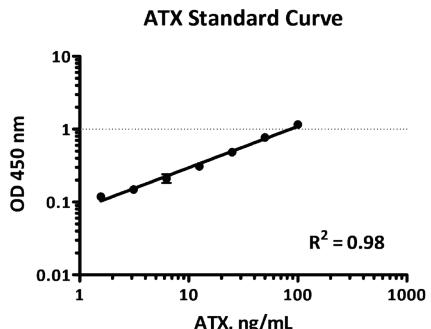

Figure 1.
15. Generate a best fit curve for standards in order to interpolate relative sample values. See Figure 1 and assay note #6 for more information.